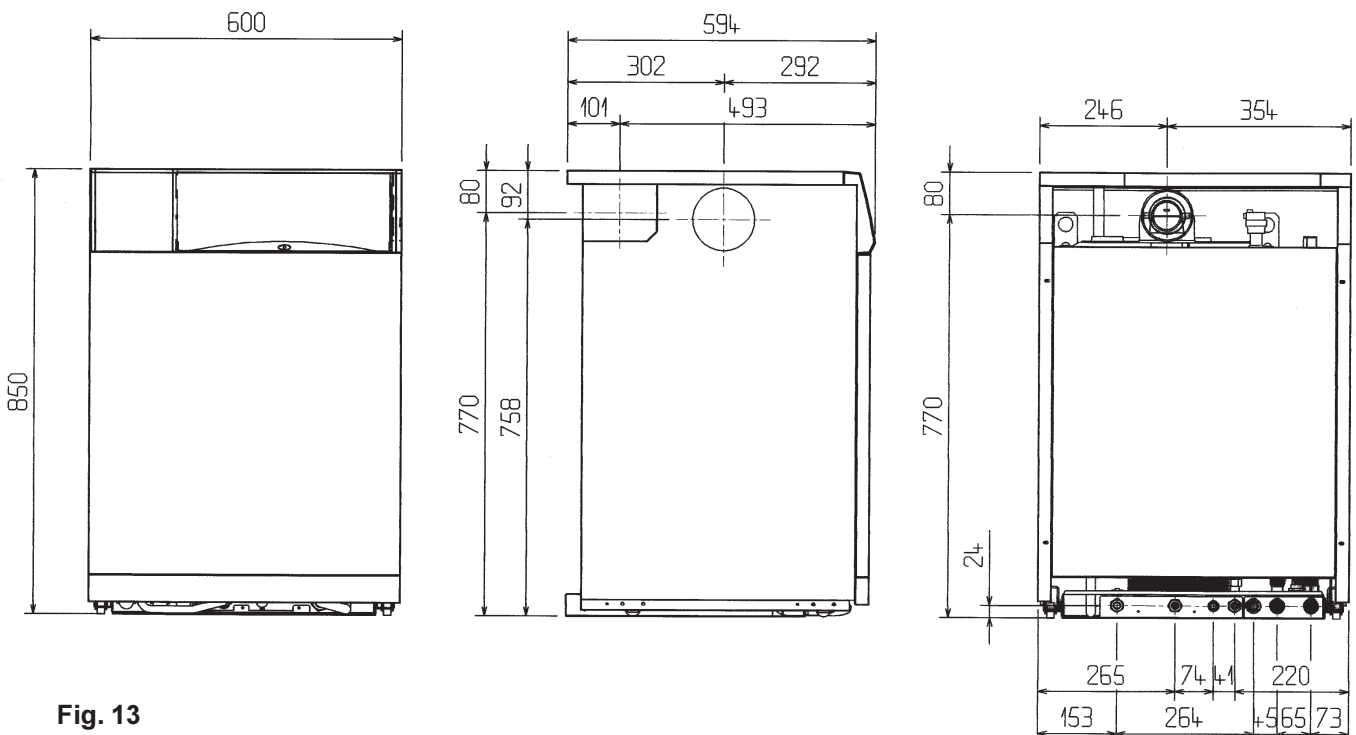

Fig. 13
**5.3.4** Refer to figs.13 for relevant dimensions for locating the flue hole: Where it is remote from the boiler take special care to ensure hole is at the correct level. Drill a 105mm hole through the wall to allow passage of the flue pipe.
Using the fig. 13 as a reference, mark and drill a 115mm hole for the passage of the flue pipe. The hole should have a 1° drop from the boiler to outside, to eliminate the possibility of rain-water entering the appliance via the flue.